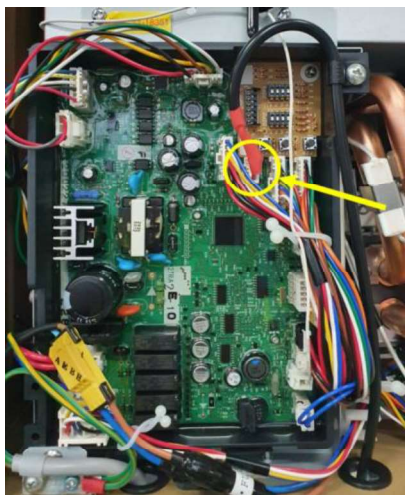

Figure 4
3. Unscrew the four screws retaining the front cover of the CFWH units and carefully disconnect the connector on the PCB as shown in **Figure 4**. Undo the P-clip securing the Smartec cable and remove the cable out of the units through the grommet located on the bottom panel of the units. Affix the front cover back onto the CFWH units. Identify location on the frame from which each Smartec cable was taken.
19. Connect the flexible hose connectors to the CFWH units. Ensure all connections into the CFWH units are correct i.e. gas to gas (yellow handle), cold to cold (green handle) and hot to hot (red handle). Do not allow for any flexible connection hoses to be kinked or restrict water or gas flow in any way. Refer to **Figure 4**.